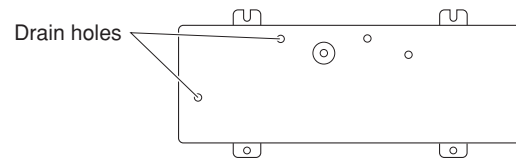

Fig. 5b
- provide a solid base (level concrete pad, concrete block, 4" x 1'4" (10 x 40 cm) beams or equal), a minimum of 4" (10 cm) above ground level to reduce humidity and protect the unit against possible water damage and decreased service life. (Figs. 5b and 5c)